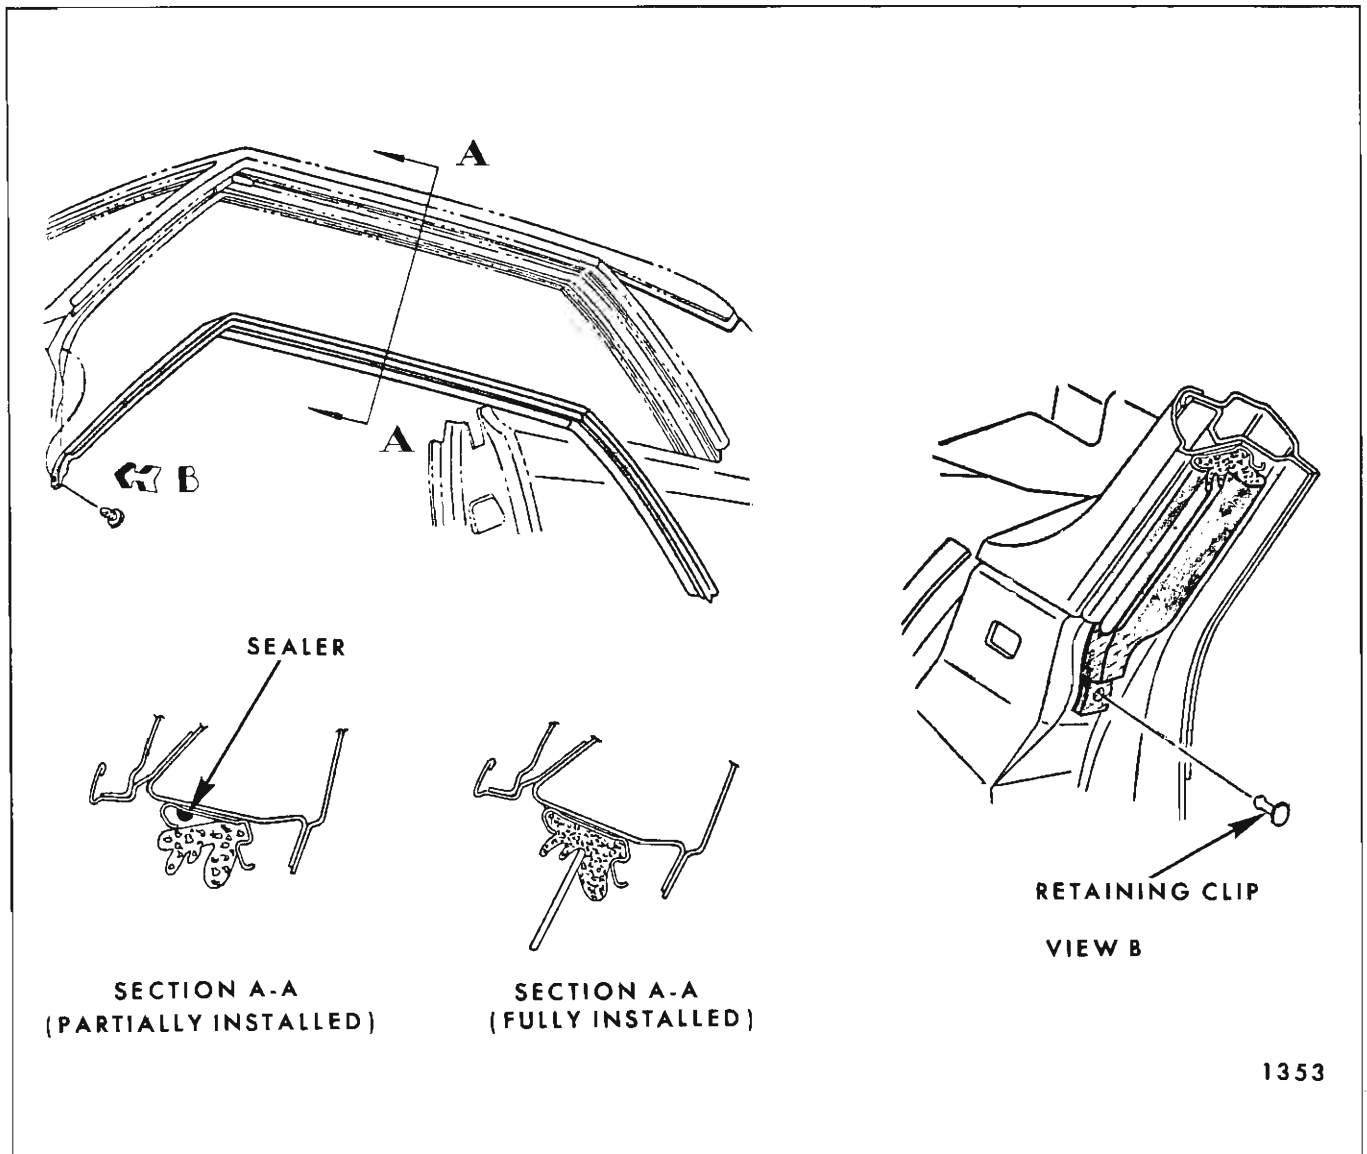

Fig. 2D43—Side Roof Rail Weatherstrip Assembly
2. Apply a continuous bead (approximately 3/16" diameter) of weatherstrip adhesive along entire surface of side roof rail weatherstrip retainer as shown in Section "A-A" in Fig. 2D44).
3. Beginning at rear end of weatherstrip, carefully engage inboard edge of weatherstrip into weatherstrip retainer. Using a flat-bladed tool, install outboard edge of weatherstrip into weatherstrip retainer. Install retaining clip at front body hinge pillar (See Section A-A in Fig. 2D43).